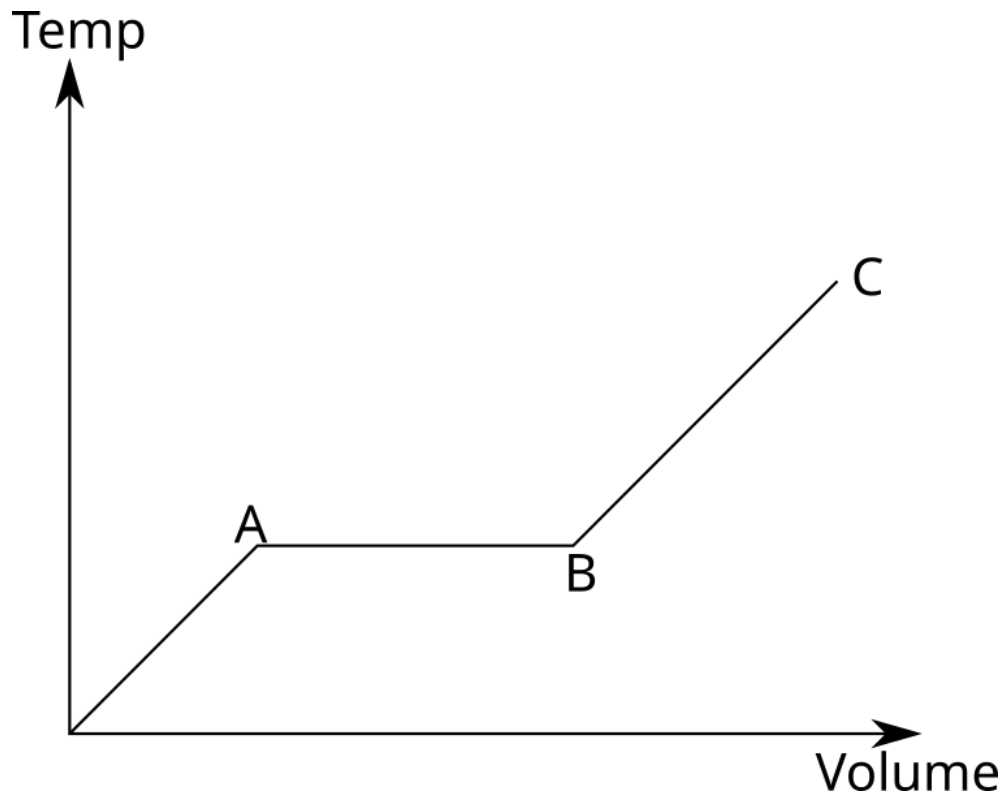

Figure 4.2: Phase Change Graph
This is visualized as the line between points  $A$  and  $B$  on the graph in Figure 4.2.
The line drawn in Figure 4.2 assumes that the material undergoing the phase change is under Isobaric conditions, meaning the pressure is **not** changing. However, different pressures (under their own Isobaric conditions) will yield different, but similarly shaped, lines as well.
*Remark.* Figure 4.2 is also **NOT** drawn to proportion, as the angle on the first portion of the line is typically **very** sharp. Obviously, Figure 4.2 is an idealized graph for the temperature-volume graph of a substance and its respective phase change. Even though the graph is idealized, it is fine for our needs, and for most needs in Thermodynamics.
There are several notable points on the graph in Figure 4.2:
Figure 4.2 can be overlaid with a curve that intersets the different isobars of that Pure Substance based on their Saturated Liquid and Saturated Vapor points.
When a Saturated Liquid is boiling to become a Saturated Vapor, (Points *A* and *B* in Figure 4.2), all of the liquid **must** turn to gas first. This Process has a Quality.